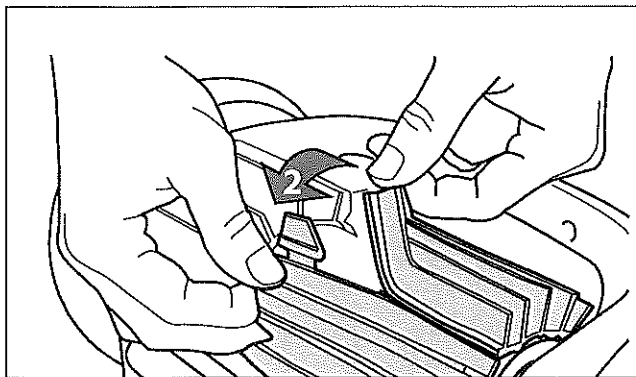

Figure 31. Undo the Tabs of the Brush
2. Separate the edges of the brush and undo the tabs (Figure 31). Remove the worn brushes.